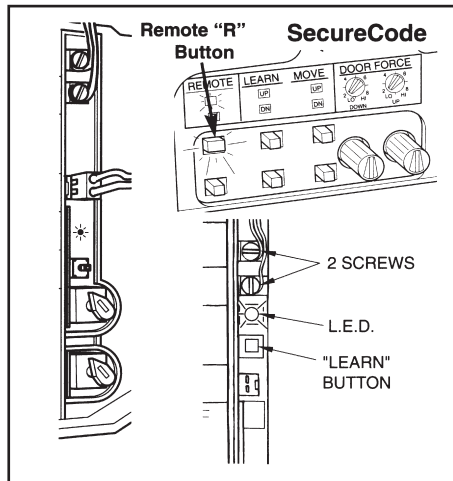

Figure 5
- SecureCode openers have a LEARN or REMOTE "R" button on the back of the unit. It will look like either one of the drawings in Figure 5.